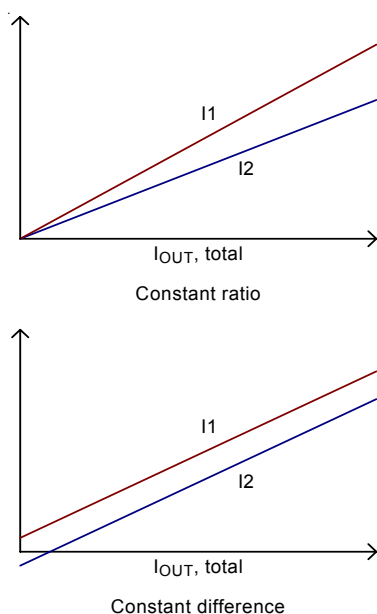

Figure 10. Category of Phase Current Imbalance
If phase current is not balanced due to asymmetric PCB layout of power stage, external resistors can be adjusted to correct current imbalance. Figure 10 shows two types of current imbalance, constant ratio type and constant difference type. If the initial current distribution is constant ratio type, according to Equation (3), reducing $R_{CSN}[1]$ can reduce $I_L[1]$ and improve current balance. If the initial current distribution is constant difference type, according to Equation (2), increasing $R_{CSP}[1]$ can reduce $I_L[1]$ and improve current balance.